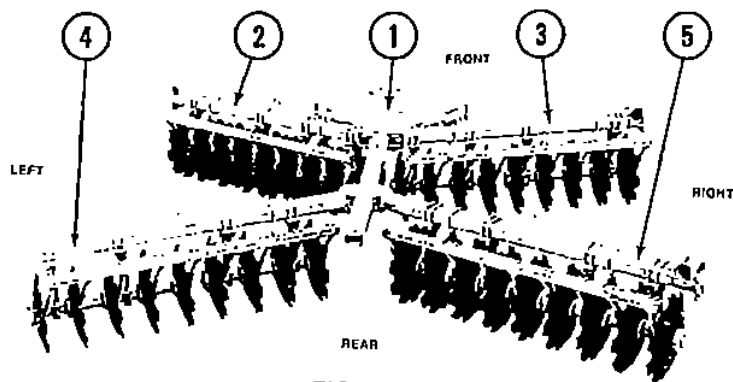

FIG. 14
2. Position the *Center Frame Bundle* (Item 1, Fig. 14) in the center of the work area. Block the center frame bundle up approximately 3 feet off the ground level.
3. Position the *Left and Right Front Gang Bundles* (Items 2 and 3) as shown in Fig. 14. Block up the bundles so they will be in an upright position. Remove the gang bolt ($\frac{3}{4}$ " x 7") and bushings. Position the spacer bushing into the center frame bracket and attach the ends of each front gang bundle onto the bracket provided on the center frame bundle (Item 1).
4. Set the *Right and Left Rear Gang Bundles* (Items 4 and 5, Fig. 14) in position as described in Step 3 and secure to the center frame (Item 1) as shown in Figure 14.